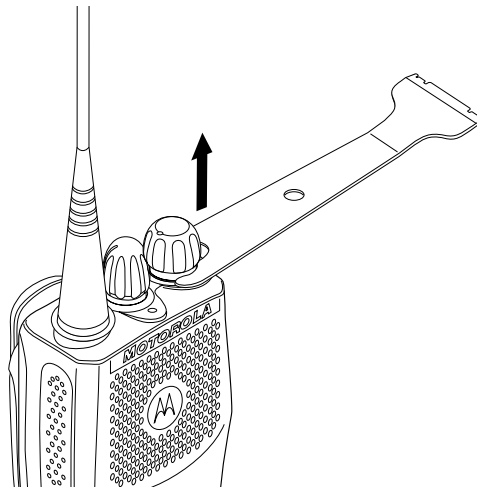

Figure 8-2. Antenna and Knob Removal
4. Pry off the volume and channel selector knobs from their shafts using the knob removal/chassis opener tool (Motorola part # 6686533Z01). (Figure 8-2)